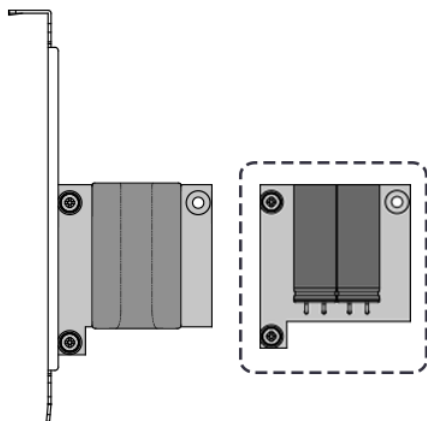
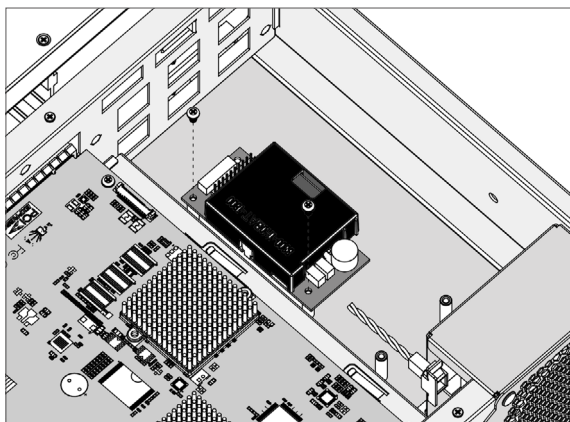
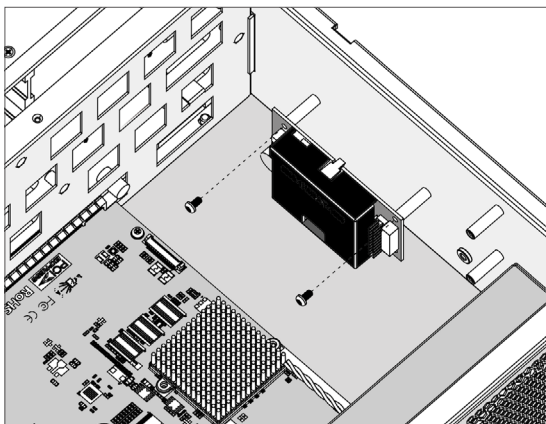

Figure B-1,
Figure B-3, Secure the Supercapacitor Backup Module
Figure B-6, Secure the supercapacitor backup Module
2. After removing the cover, then secure the battery pack module (ARC-1886-CBM, reference NO.1 in Figure B-1) in the bottom of the enclosure (for ARC-8050T5U-12R), as shown in Figure B-3.
2. After removing the cover, then secure the supercapacitor backup module (ARC-1886-CBM, reference NO.1 in Figure B-1) on the right side within the enclosure (for ARC-8050T5U-16R/24R), as shown in Figure B-6.